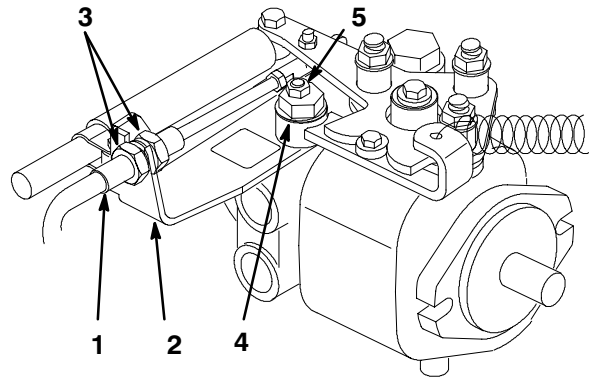

Figure 39
- A. Loosen both jam nuts securing the traction control cable to the bulkhead on the hydrostat (Fig. 39). Make sure the jam nuts are loosened equally and sufficiently to allow adjustment.
- B. Loosen the nut securing the eccentric to the top of the hydrostat (Fig. 39).
- D. Rotate the eccentric until creep does not occur in either direction. When the wheel stops rotating, tighten the nut locking the eccentric and adjustment (Fig. 39). Verify the adjustment with the throttle in the SLOW and FAST position.
- E. From each side of the bulkhead, tighten the locknuts **evenly**, securing the traction cable to the bulkhead (Fig. 39). Do not twist the cable.